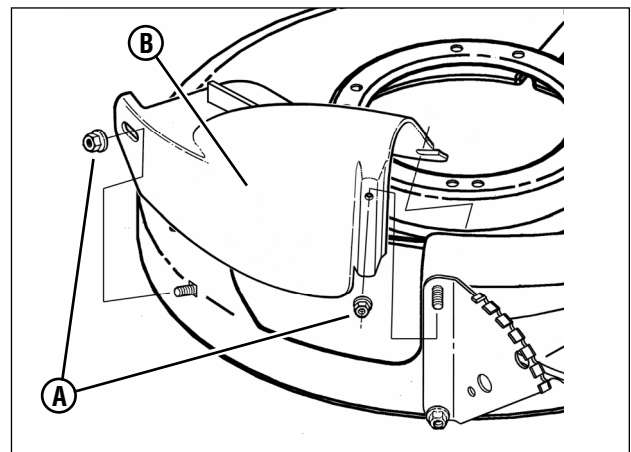

Figure 9: Removing the recycling cover
1. Remove the nuts (**A**, **Figure 9**) securing the recycling cover (**B**) to the mower deck.